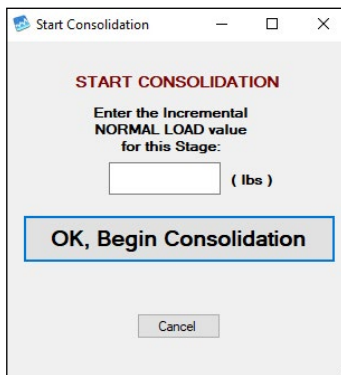

Figure 10: Start Consolidation Dialog Box
6. Click **Start Consolidation**. If using a pneumatic unit apply the load using the pressure regulator then click **OK, Begin Consolidation** to continue onto the consolidation phase of the test. The software will automatically detect the applied load. For dead-weight units, when prompted, enter the normal load value in pounds (Figure 10). Once the appropriate weights are loaded, click **OK, Begin Consolidation** then release the load arm. The data is displayed in a tabular format and a graphical format. To view the graph, select the **Consolidation Graph** tab. A graph of the current stage will be displayed in real-time.